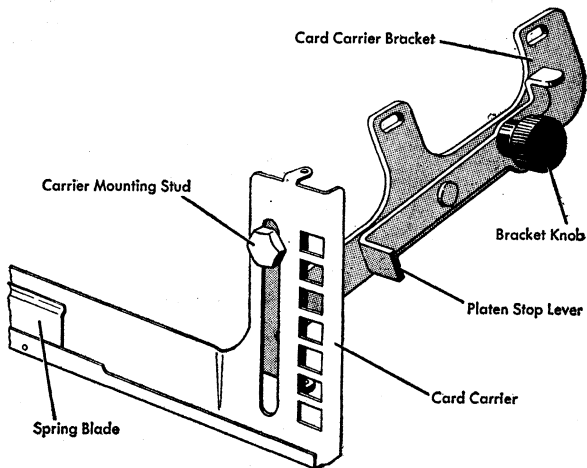

Figure 3. Card Carrier Bracket Adjustment
2. THE CARD CARRIER BRACKET ASSEMBLIES may be positioned up or down to obtain a parallel condition of the card carrier (Figure 3). This may be checked by typing first